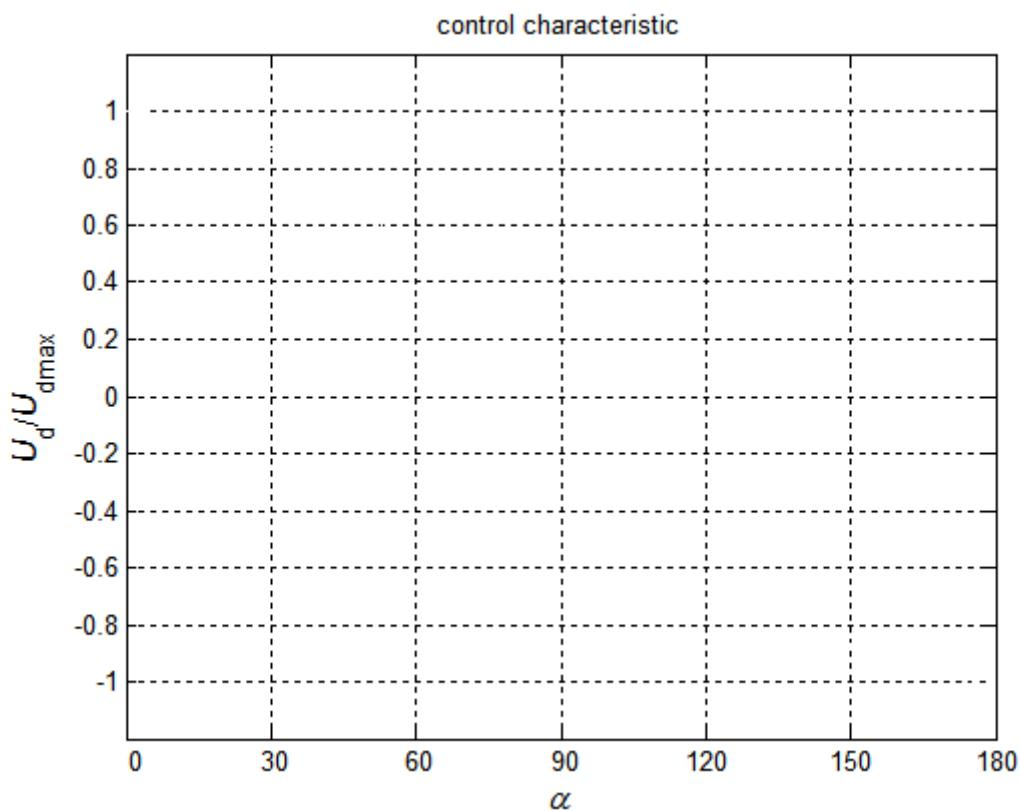

Figure 4.3: Control characteristic of converter for CCM and DCM
- 4.2** Calculate and draw in Figure 4.3 the control characteristic $U_d/U_{d\max} = f(\alpha)$ of the converter for the continuous conduction mode ($\alpha < \alpha_L$) and discontinuous conduction mode ($\alpha > \alpha_L$) range.